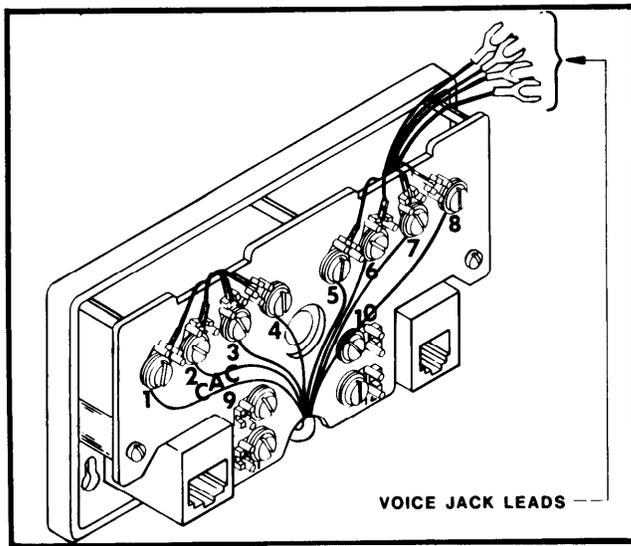

FIGURE 7
- (e) Terminate the station wires and the voice jack leads (635B only) to the desired network locations. See Fig. 7.